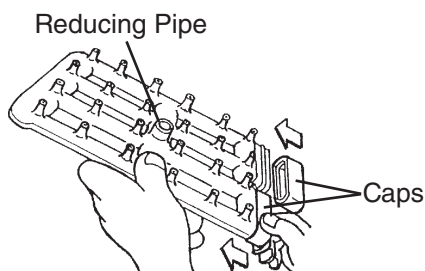

Fig. 41
11) Refit the 2 caps in their correct positions. Make sure the reducing pipe is in place in the center. See Fig. 41.